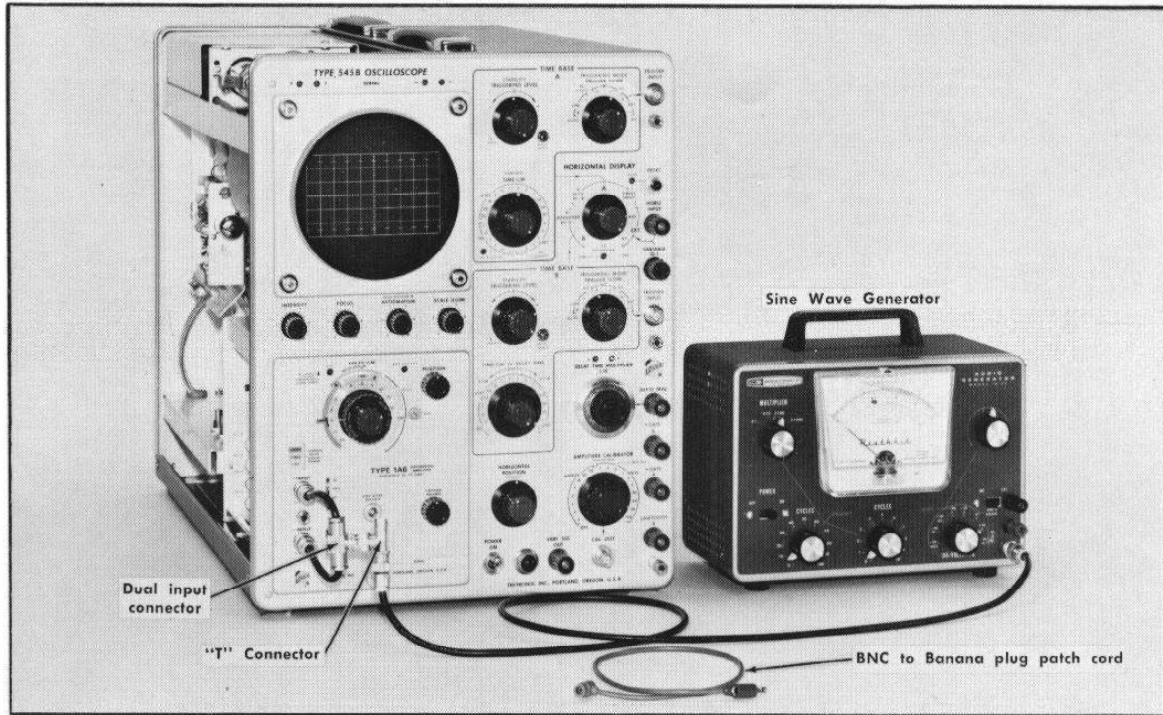

Fig. 6-13. Equipment setup for step 11 and 12.
- a. Equipment setup is given in Fig. 6-13.
- b. Apply a 1 kHz signal from the Sine-Wave Generator through a coaxial cable, a T connector and a dual input connector to the two INPUT connectors of the Type 1A6. See Fig. 6-13.